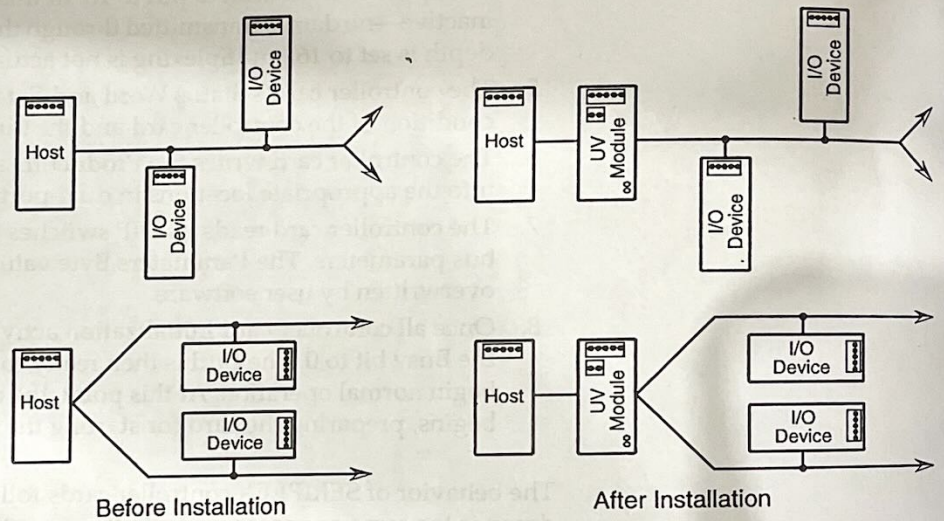
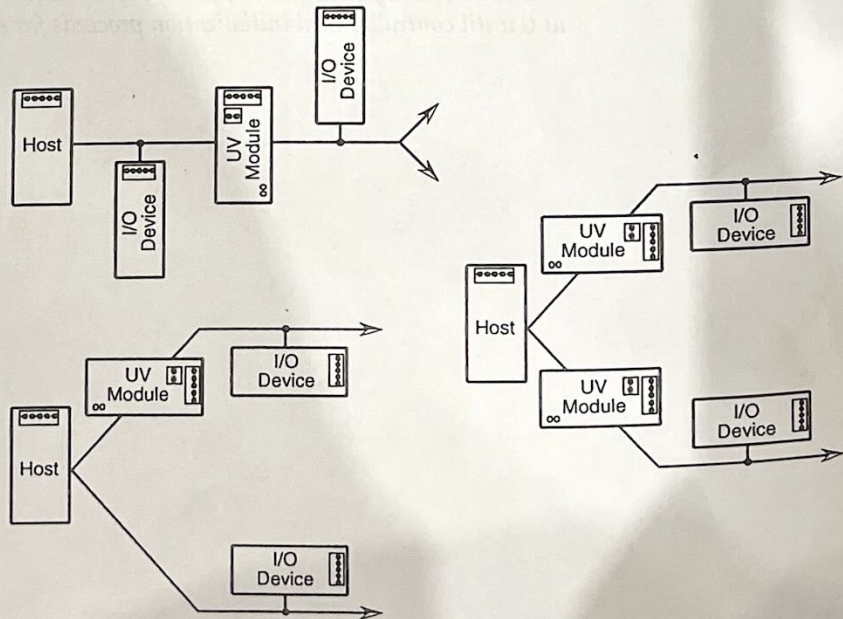

Figure 3: Undervoltage Module Installation—Correct
Figure 4: Undervoltage Module Installation—Incorrect
Installing a SERIPLEX Undervoltage (UV) Module between the controller card and the bus shuts down the bus by disabling the bus clock and data lines when the bus voltage drops below 9.0 VDC. One UV module is sufficient for any application; install the module as close to the controller card as possible. Figure 3 shows correct installation of the module; Figure 4 shows incorrect installation. Bulletin No. 30298-001-01 provides complete UV module installation and application instructions.